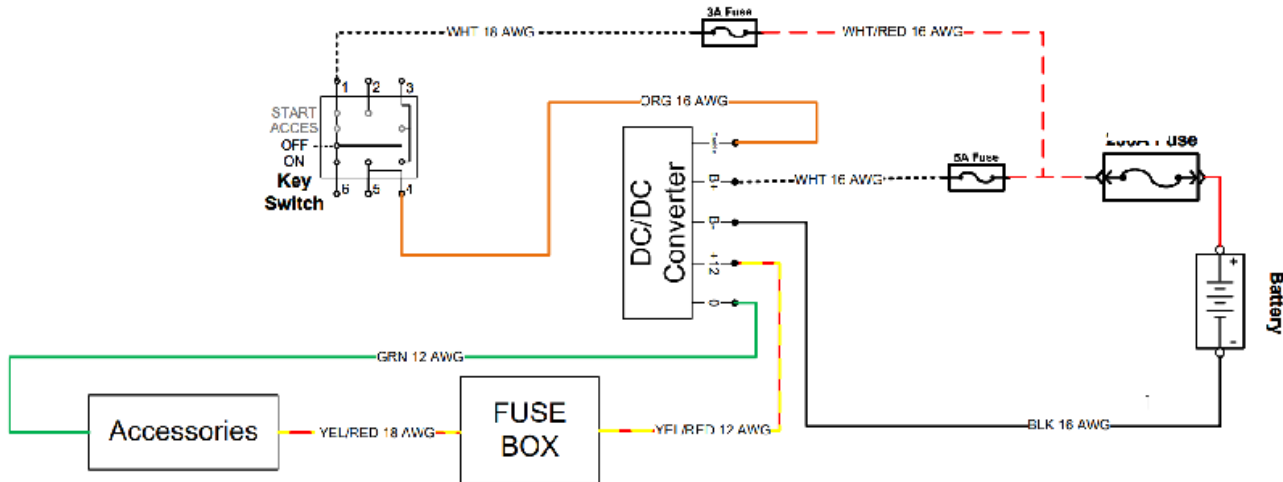

Figure 72. DC/DC Converter Input and Output Terminals Inspection.
1. 1. Check for the presence of voltage between the positive terminal (**B+**) (White Wire) and the negative terminal (**B-**) (Black Wire) of the DC/DC converter (As shown in Figure 72).
1. 2. Check for the presence of voltage between the orange wire and the negative terminal (**B-**) (Black Wire) of the DC/DC converter (As shown in Figure 72).
2. 1. Check for the presence of voltage between the yellow/red wire and the green wire of the DC/DC converter (As shown in Figure 72).